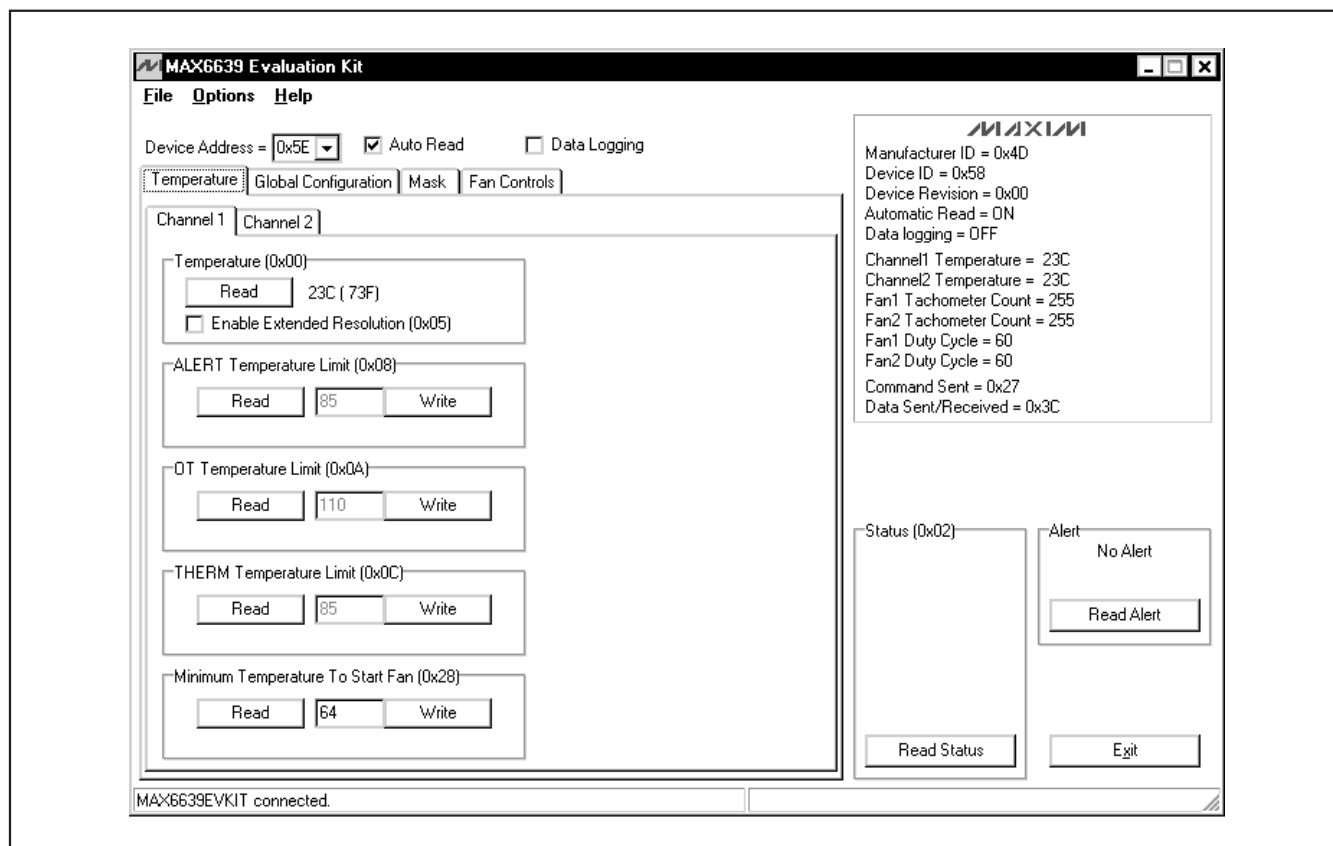

Figure 1. MAX6639 EV Kit Software Main Window (Temperature Tab)
- 9) Start the EV kit software by opening its icon in the **Start | Programs** menu. The EV kit software main window should appear as shown in Figure 1. Observe as the program automatically detects the address of the MAX6639 and starts the main program.
The MAX6639 monitors its own die temperature and the junction temperature of one external diode-connected transistor, or the junction temperature of two external diode-connected transistors. The temperature measurements are capable of either 8-bit or 11-bit (extended) resolution; 8-bit resolution results in a temperature resolution of 1°C/LSB. Extended resolution results in a temperature resolution of 0.125°C/LSB and is enabled by checking the **Enable Extended Resolution (0x05)** checkbox (Figure 1).
Read the temperatures by pressing the **Read** buttons within the **Temperature** tab sheet (Figure 1). The temperature is shown to the right of the buttons.
Read a limit by pressing the **Read** button (Figure 1). The value (in Celsius) is shown to the right of the button. Change a limit by entering the value (in Celsius) into the appropriate edit field and pressing the **Write** button.
Read the minimum fan-start temperature by pressing the **Read** button (Figure 1). The value (in Celsius) is shown to the right of the button. Change the minimum fan-start temperature by entering the values (in Celsius) into the edit boxes and pressing the **Write** buttons.